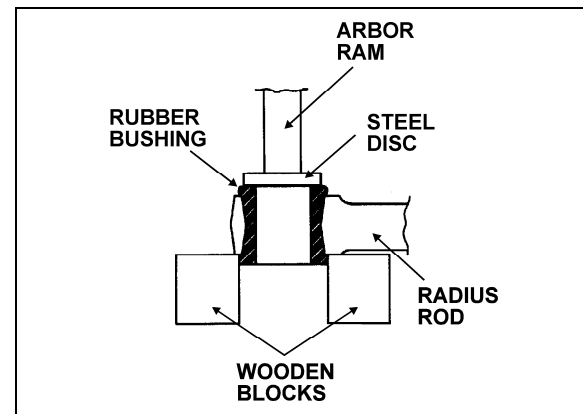

FIGURE 6: RADIUS ROD BUSHING REMOVAL 16011
1. Safely support the radius rod as shown in figure 6.